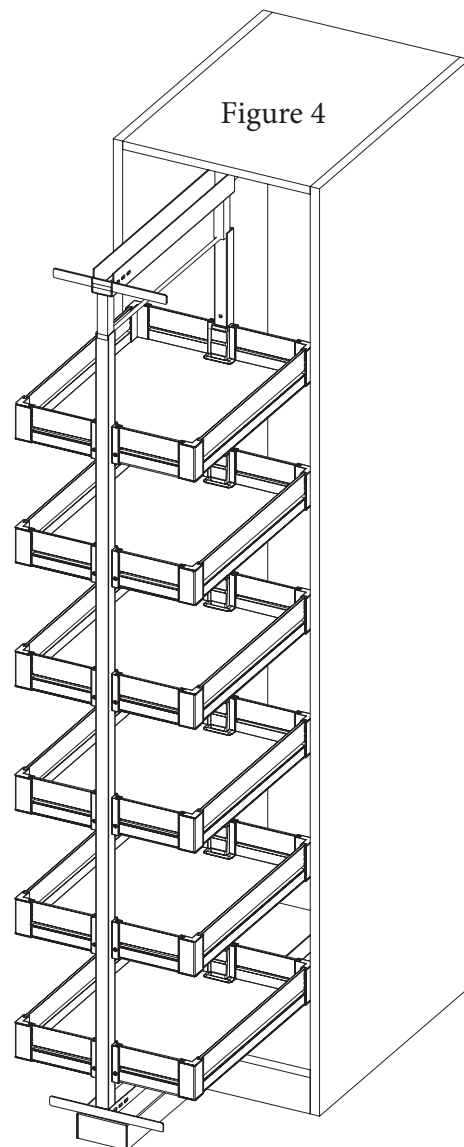

Figure 4
4. Lock the main frame with socket set screw (F), to fasten the adjusting frame, as shown in Figure 4.
2. Completed installation, as Figure 4.